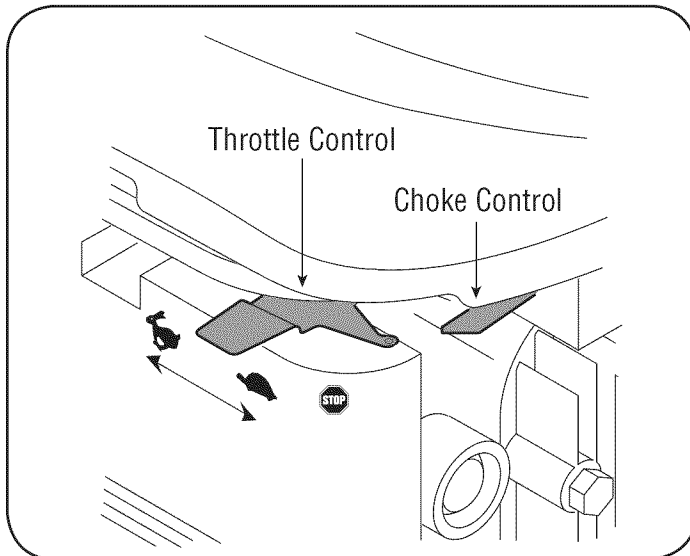

Figure 12
3. Move throttle control to the FAST (Rabbit)  position. See Figure 12.
4. Move the choke control to the CHOKE  position (A warm engine may not require choking.) See Figure 12.